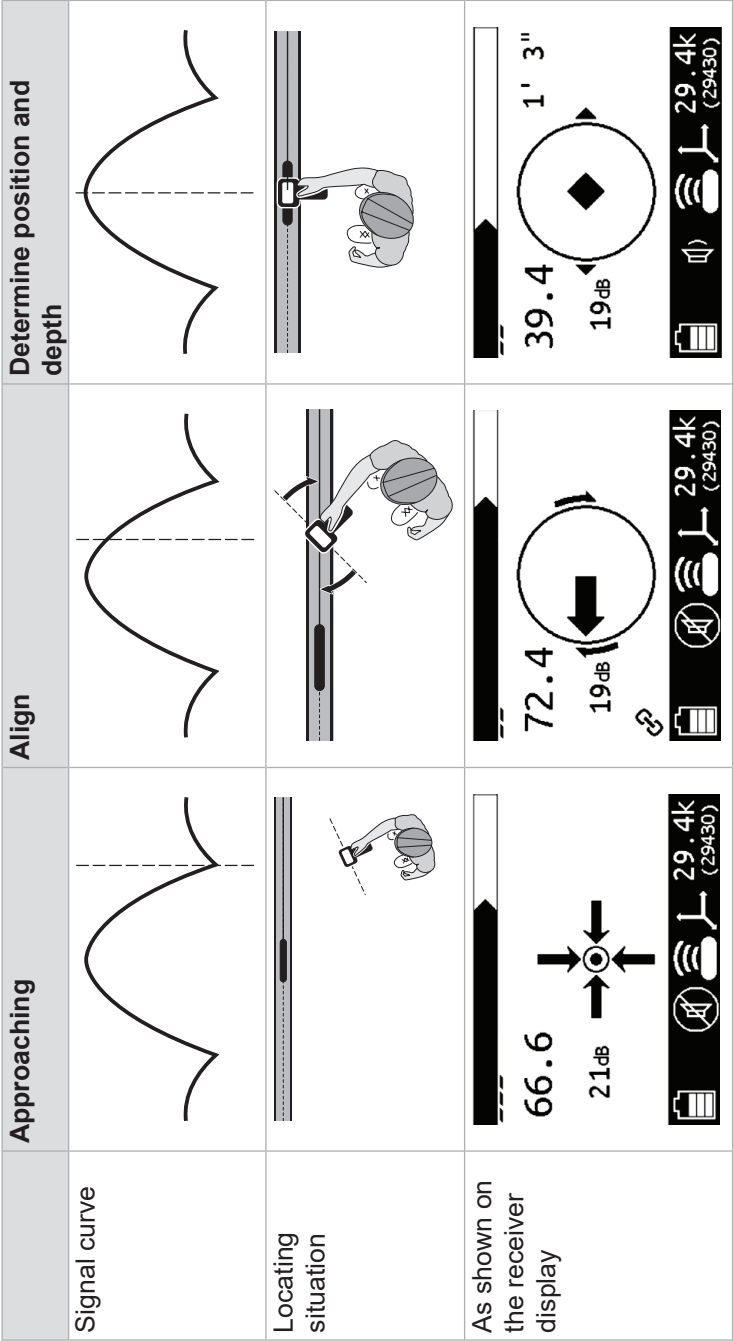

Fig. 28: Steps to locate a beacon
- To do so, evaluate the reaction of the receiver (see following overview and fig. 28).